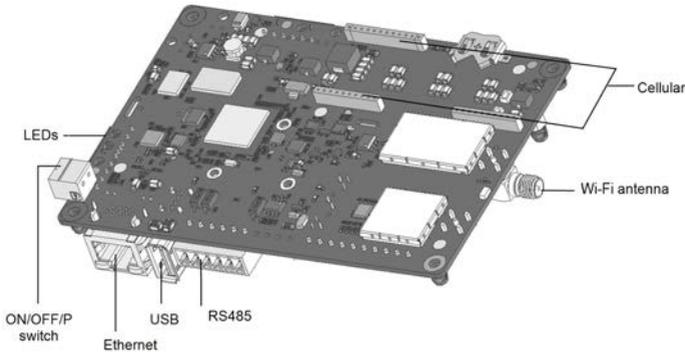

Figure 20: Communication board connectors
- e. Connect the Ethernet connector to the RJ45 port on the communication board (see *Figure 20*).